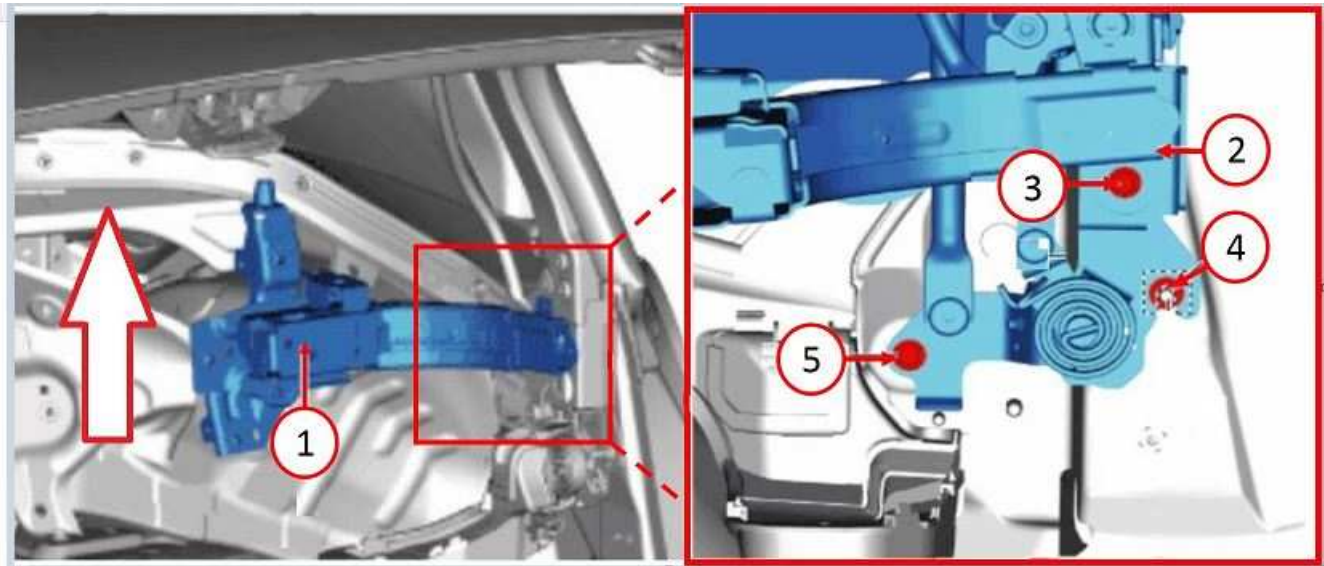

Fig. 3
5. Adjust the position of the link bracket. (For both left and right sides) (Fig. 3) .